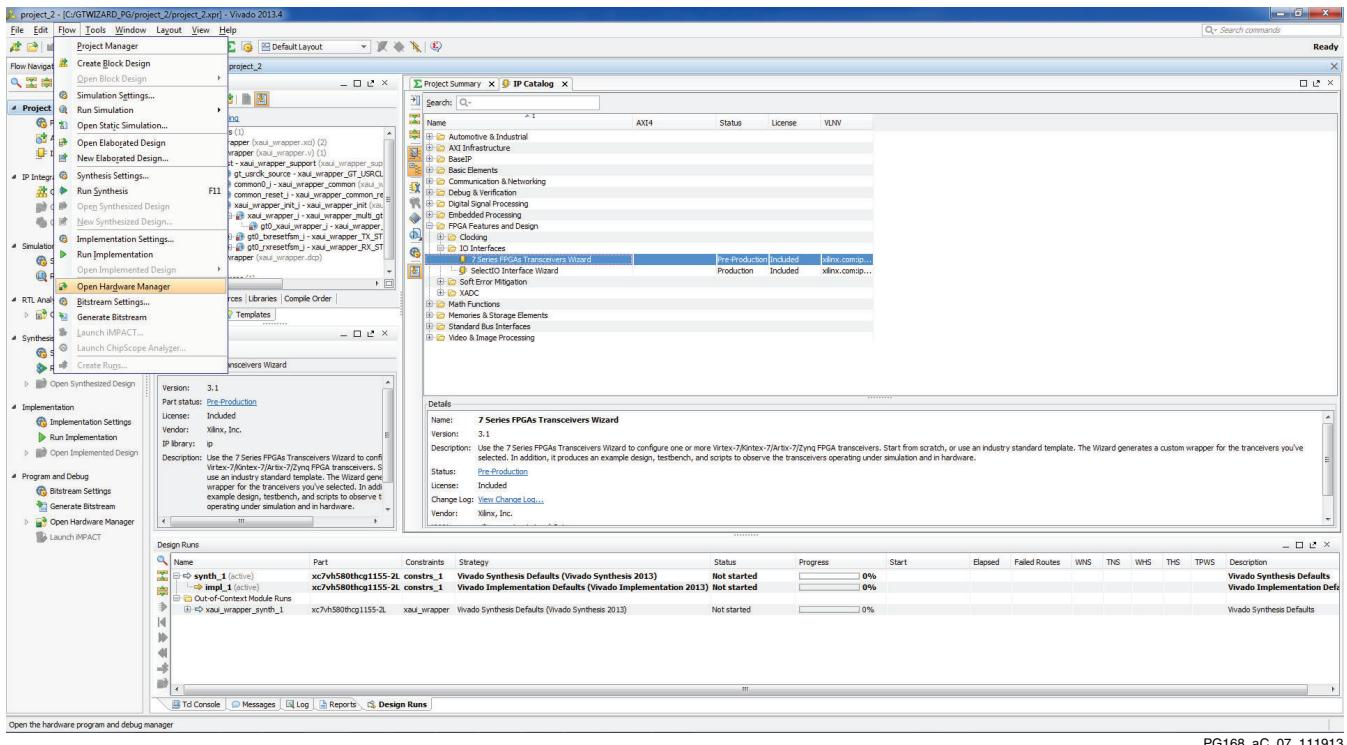

Figure C-7: Open Hardware Session
11. When the bit file is generated, click **File > Open Hardware Session**, as shown in Figure C-7.